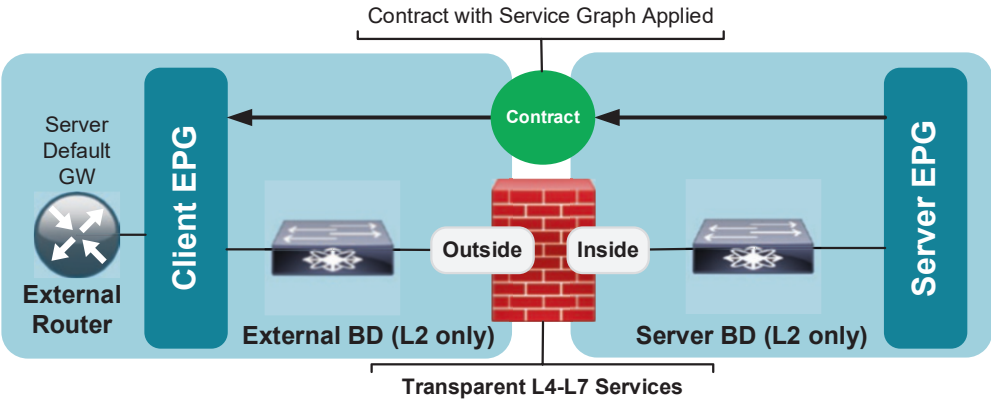

Figure 8-7. Transparent L4-L7 node with L3 routing external to ACI
- a. **Transparent Mode with Layer 2 Bridge Domains:** A default gateway for servers is on a router external to ACI, connected via an external L2 BD (see Figure 8-7).